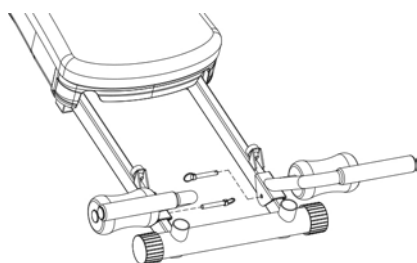

Fig. 4
3. Insert the 2 Short Hitch Pins through the holes on the Multi-Function Attachment Brackets and the hole on the Rails, as shown in Fig. 4.